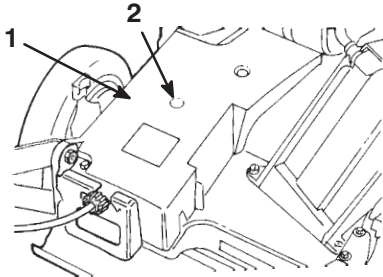

Figure 31
2. Install a grease gun onto the fitting through the belt cover opening (Fig. 31).